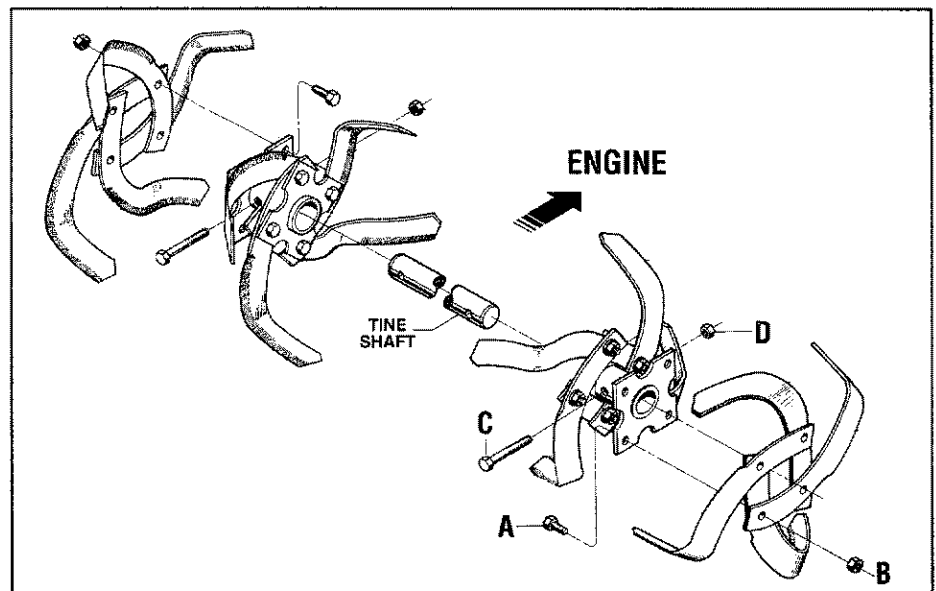

Figure 5-3: Install tines so that cutting edge of tines enter soil first when tiller moves forward.
1. With the engine shut off and the spark plug wire disconnected, remove the two screws (A, Figure 5-3) and locknuts (B)
2. If removing both tine assemblies, mark them "left" and "right" before removal. Remove the screw (C, Figure 5-3) and locknut (D) that secure the tine assembly to the tine shaft. If necessary, use a rubber mallet to tap the tine assembly outward off the shaft.